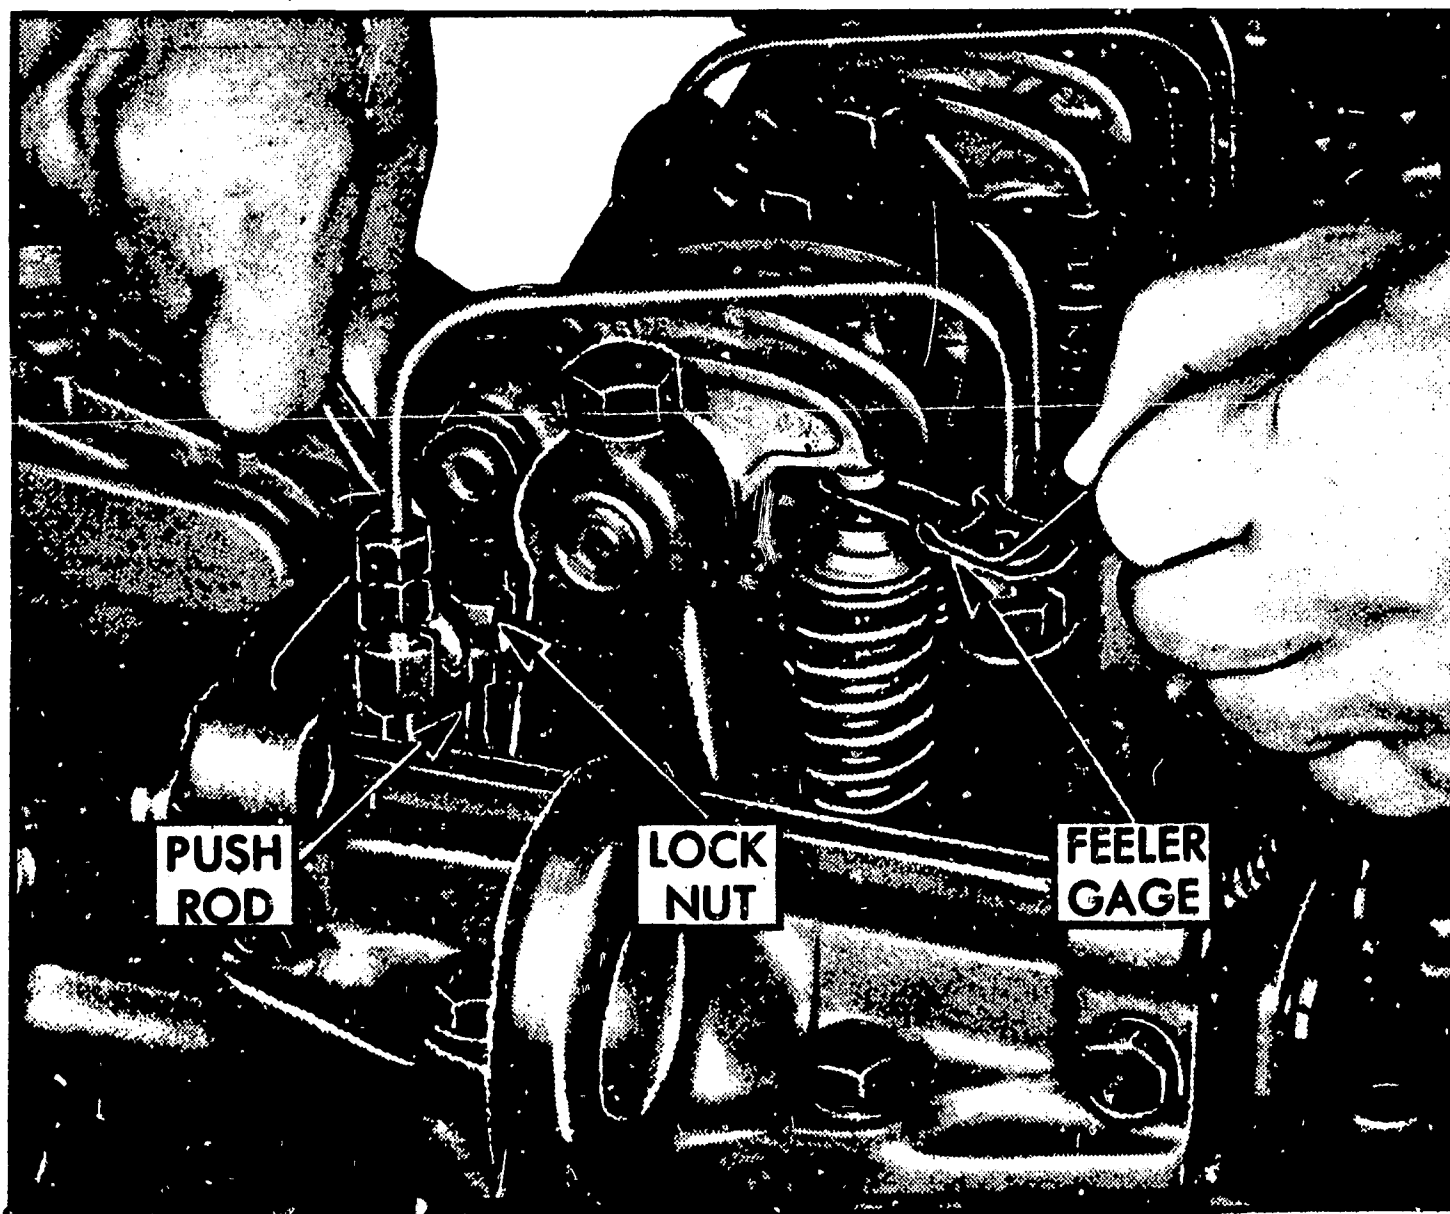

Fig. 1 - Adjusting valve clearance.
4. Place a .013" feeler gage, tool J9708, between the valve stem and the rocker arm (See Figure 1). Adjust the push rod to obtain a smooth "pull" on the feeler gage.